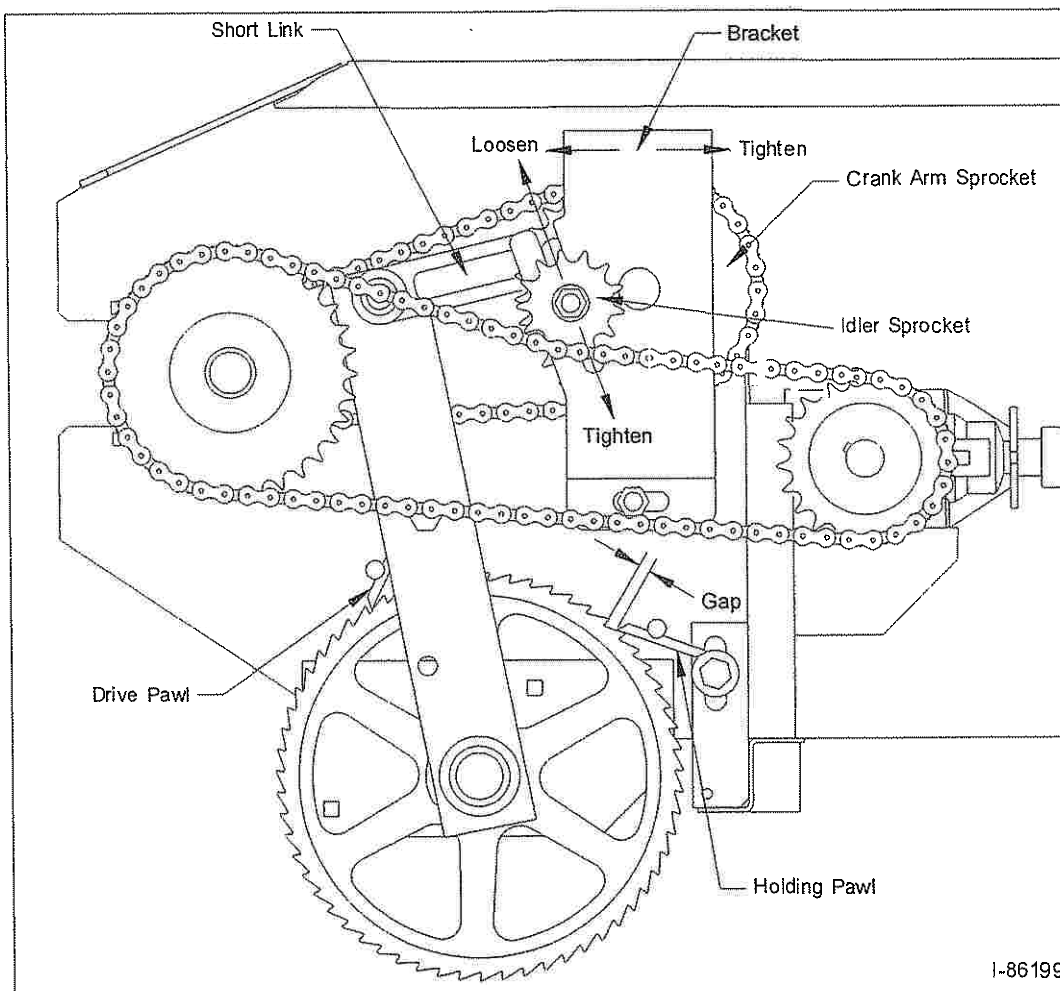

Figure 4B-Adjusting the Holding Pawl and Drive Chains
- Periodically check the belt tension. Refer to the **Front Drive Assembly Parts Detail** in Appendix A at the back of this manual to locate the belt tension components. The belt and tensioning spring are located under the front belt shield. As needed, re-tension the belt by tightening the eye bolt until the spring stretches to five (5) inches.
- Apply chain lube once a month to the drive chains (shown in Figure 4B); use vegetable oil or a common spray lube for chains.
To Reset the Holding Pawl (refer to Figure 4B):
- (c) Adjust the holding pawl to obtain a 1/8" gap between the end of the pawl and bottom of the notch as shown in Figure 4B. Tighten the nut to secure the holding pawl.
Refer to **Figure 4B** on the previous page for an illustration of the drive chains and related components. The chains should be snug, but not too tight. If the chains are too tight, they may cause excessive wear on the bushings in the crank arm sprocket (resulting in premature failure). If the chains are too loose, they can slip and jump sprocket teeth when the spreader is operating with a full load.
- **Adjust the drive chains** according to Figure 4B and the following guidelines:
- (b) **Ratchet Drive Chain:** adjust the **bracket position** by loosening the two (2) 1/2" bracket bolts and sliding the bracket forward or backward as shown.